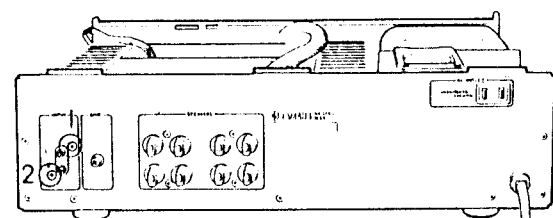

Fig. 5
- c. Remove screws ① and ② in Fig. 5 and then remove the PJ circuit board.